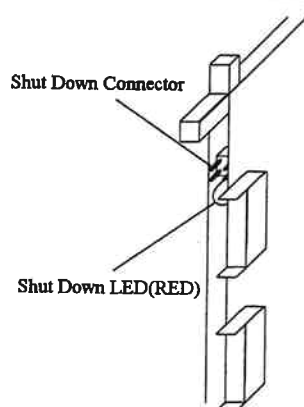

Fig. 3.4.8.2.2-1 Shut Down LED
- a. Confirm that Shut Down LED lights.(Fig. 3.4.8.2.2-1) If the LED does not light, see Connection of Shut Down Jumper(INST03-2600).
- a. Disconnect the CH cables from the sub-edge connectors on the PCB referring to Table 3.4.8.2.2-1, Table 3.4.8.2.2-2, and Fig. 3.4.8.2.2-2.